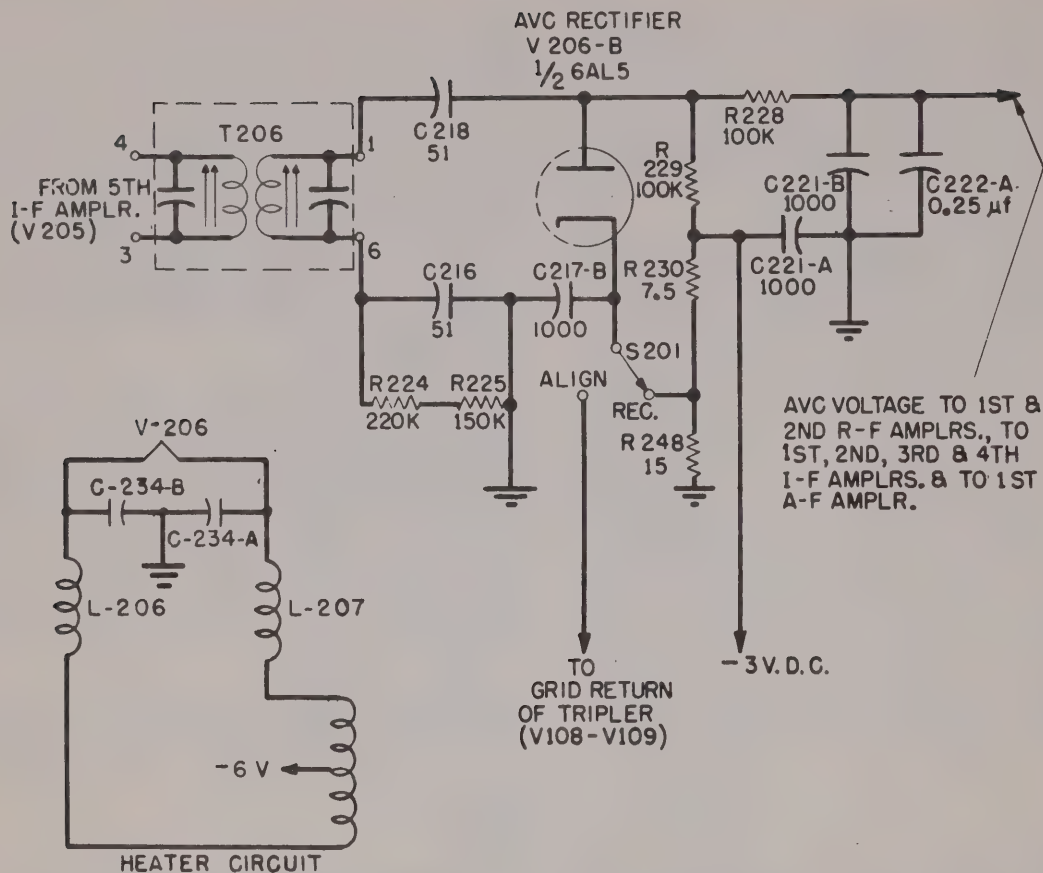

Figure 2-11. Simplified Schematic—AVC Rectifier Circuit
e. AVC RECTIFIER. One half of a 6AL5 dual diode (V206-B) is utilized in the AVC circuit, which is shown in simplified form in figure 2-11. The diode is connected as a shunt rectifier across the secondary of transformer T206; coupling is accomplished through capacitor C218 and capacitors C216 and C217-B in series. With switch S210 in the REC. position, the diode load consists of resistors R229 and